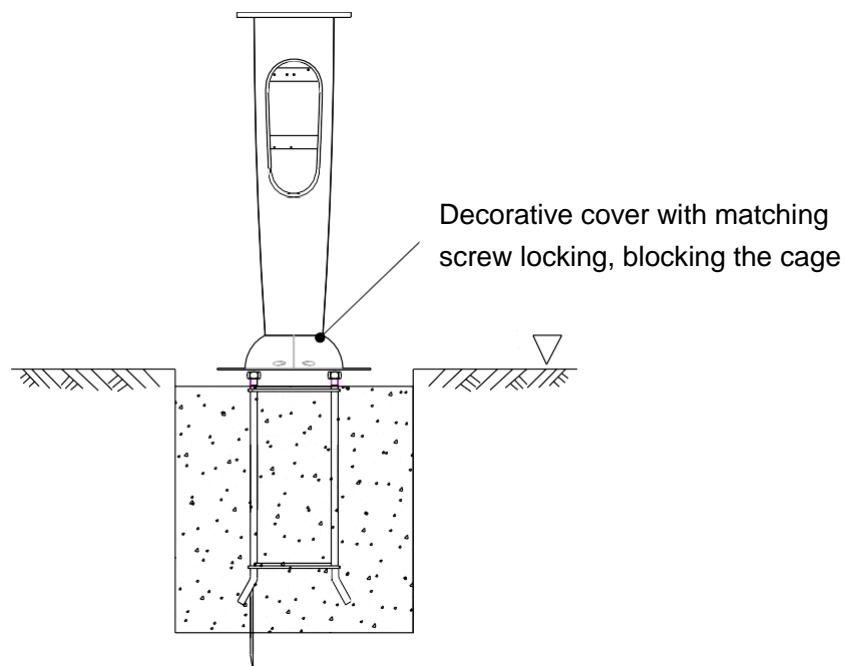

Figure 10
- ③ Cover the cage with decorative covering and lock with screws, as shown in Figure 10.